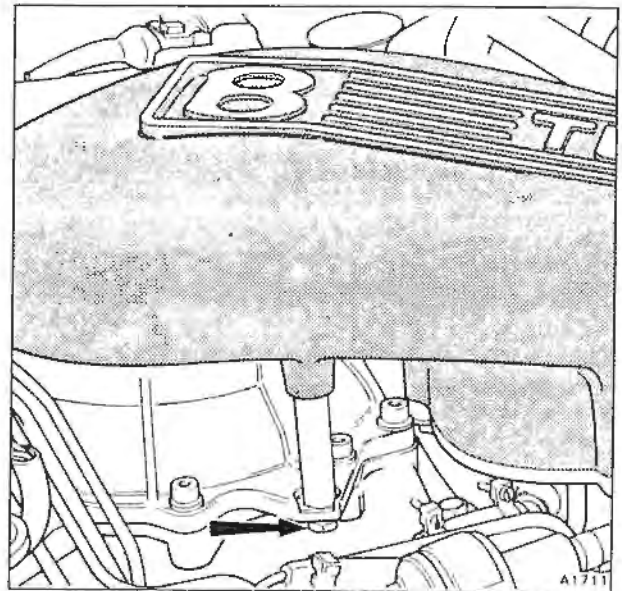

Fig. J2-5 Removal of the air intake elbow
4. Unscrew the two setscrews securing the intake elbow to the mixture control unit (see fig. J2-5).